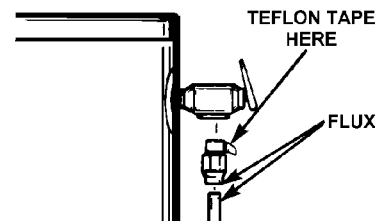

FIGURE 11.
11. Flux the ends of the length of pipe cut for the T & P and the inside of the 3/4" male threaded to sweat connector and 90° sweat elbow, see Figure 11. Then solder this assembly together. Do not screw the connector into the Temperature Pressure Relief Valve before the assembly is soldered together.
12. Using your pipe wrench, screw the assembly into the Temperature-Pressure Relief Valve, see Figure 11.